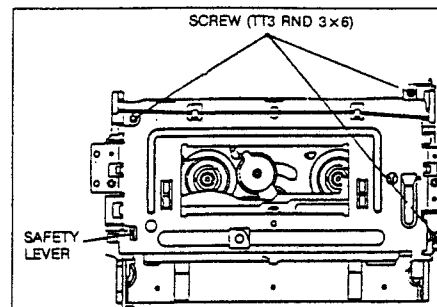

Fig. 1-7 Reference of assembly for the Front Loading As
- 5) Make sure of the assembly state of the Front Loading Ass'y (refer to Fig. 1-7).